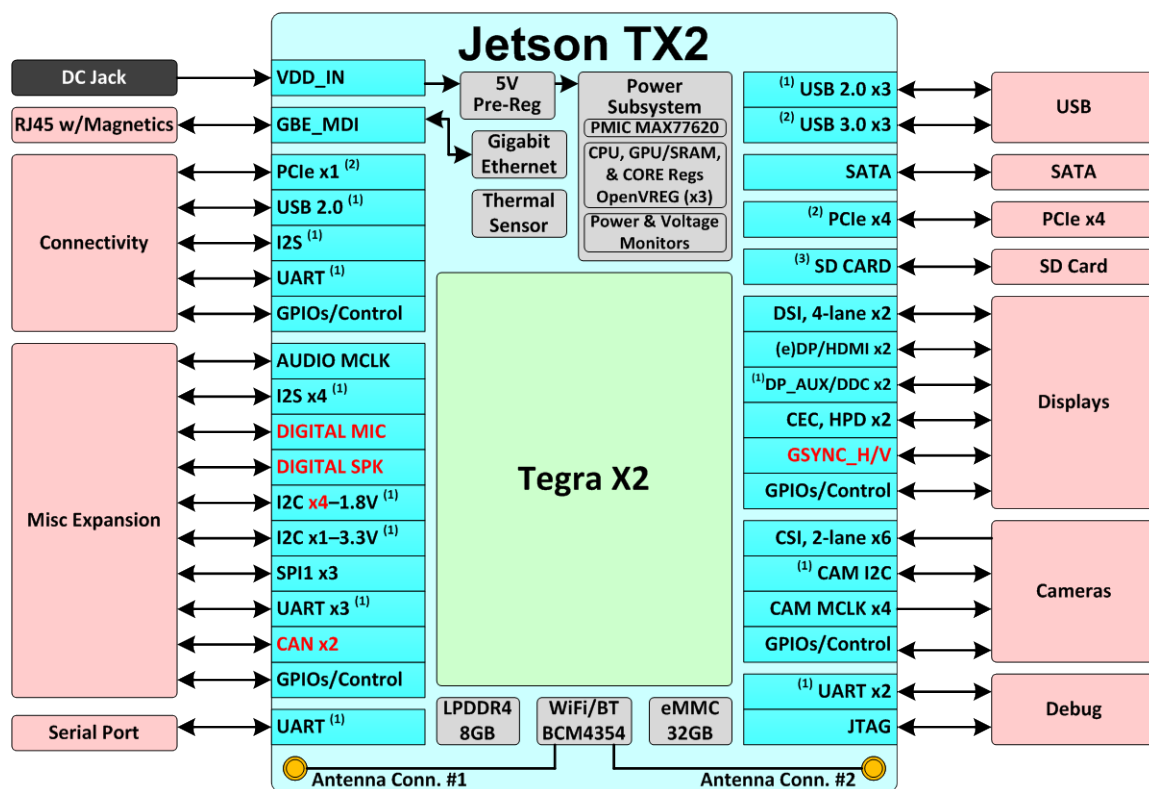

Figure 2. Jetson TX2 Block Diagram
2. USB 3.0 and PCIe share lanes. Not all instances shown in Figure 2 can be brought out together. See the USB 3.0, PCIe, and SATA lane mapping configuration tables in the “USB 3.0, PCIe, and SATA Mapping” section.